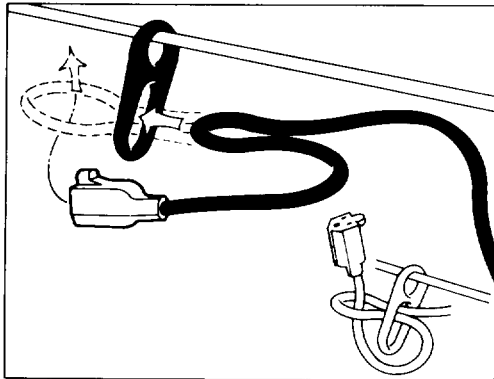

Figure 3
7. To reduce the likelihood of disconnecting lawn mower cord from the cord set during operation, attach extension cord to cord guide on mower; refer to page 4, Fig. 3.
1. Before connecting extension cord to mower plug, attach extension cord to cord guide on mower (Fig. 3). Pull enough cord through loop so cord guide can slide from side to side when cord is connected to mower plug.